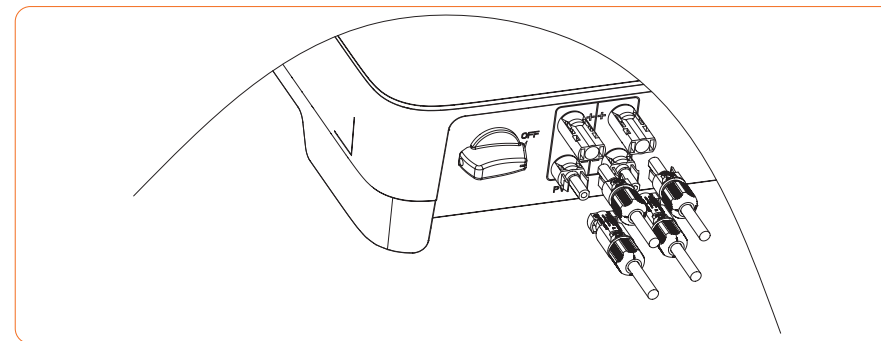

Figure 4-14
② Use a multimeter to measure the voltage of the DC input string, verify the polarity of the DC input cable, and ensure that each string voltage is within 600V.
3. Insert the positive and negative connectors into the inverter DC input terminals respectively, and a "click" sound represents the assembly in place, as shown in Figure 4-14: